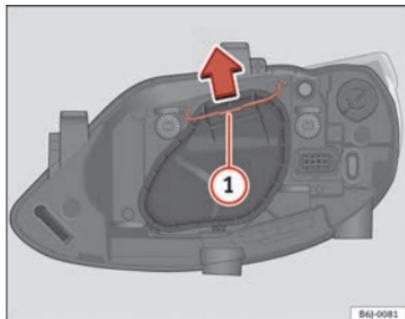

Fig. 145 Dipped beam/
- Move the loop ⇒ fig. 145 ① in the direction of the arrow and remove the cover.